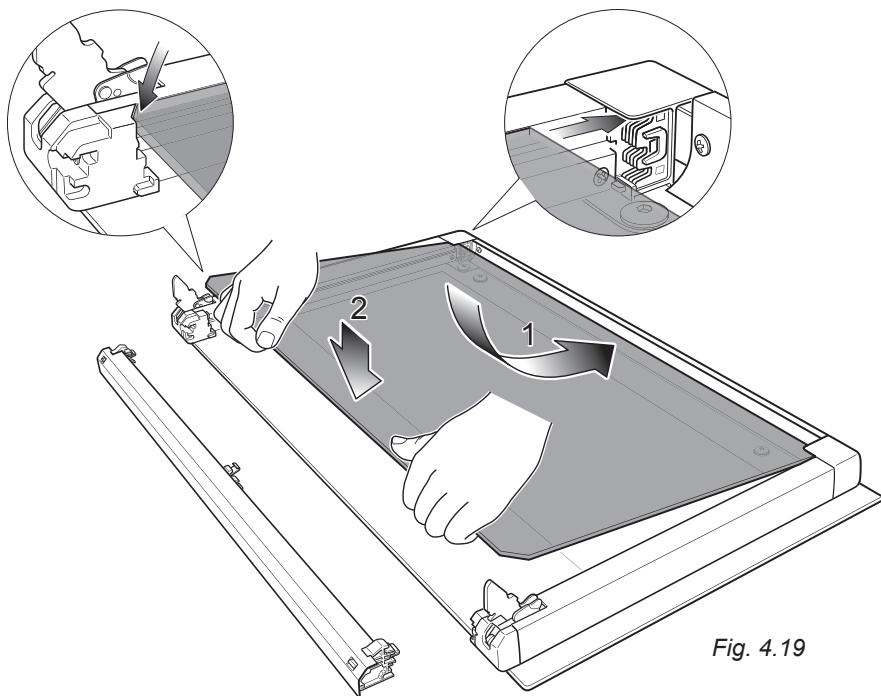

Fig. 4.19
1. Insert the inner glass pane in the uppermost pair of grooves and push it slightly (arrow 1 in figure 4.19).
2. Gently lower into place (arrow 2 in figure 4.19).